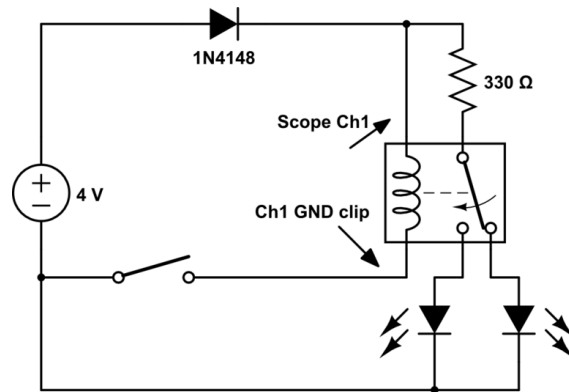

Figure 2: A relay controlled by a push button switch.
- The circuit should now look like figure 2.